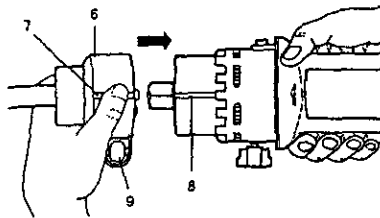

Fig. 3
- Align the flex shaft connector cap (6) with the cutting tool motor housing (8) (see Fig. 3).